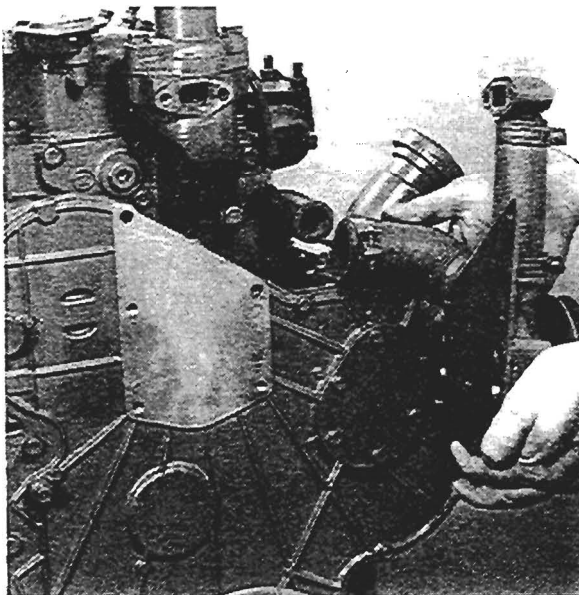

Fig. N2
5. Release the three setscrews which fasten backplate to timing case and cover and the two setscrews which fasten water pump to cover and remove pump complete with backplate (see fig. N2).